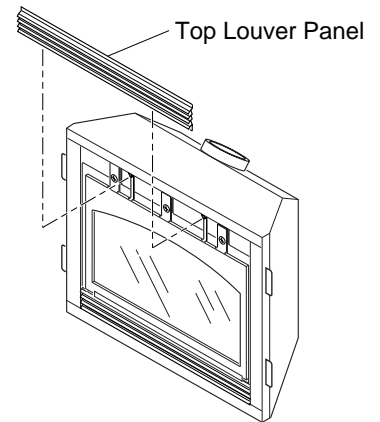

Figure 1 - Removing Top Louver Panel
1. Remove the upper louver panel by lifting upward and out (see Figure 1).